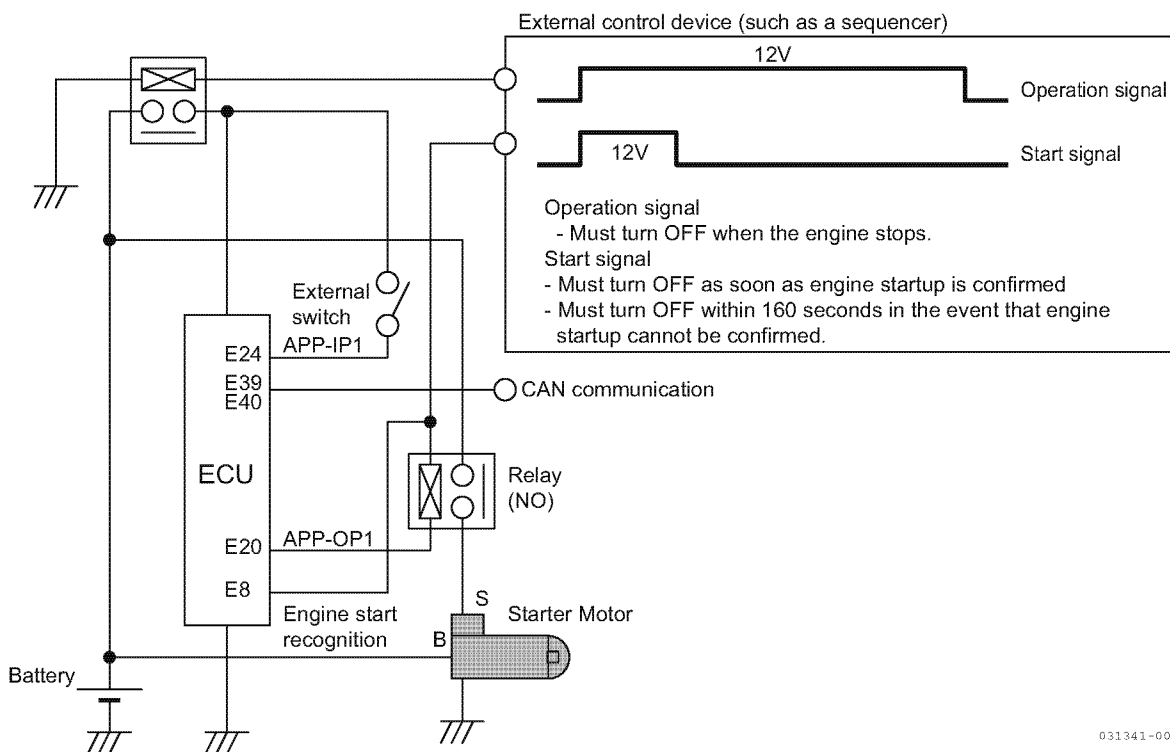

Figure 14-40 Wiring diagram of a remote (automatic) start/stop system
You can also use functions (1) and (2) described above to implement a remote (automatic) start/stop system. Details shown in **Figure 14-40**. This example uses the Engine Start Recognition (E8) signal from an external control device instead of the key switch.